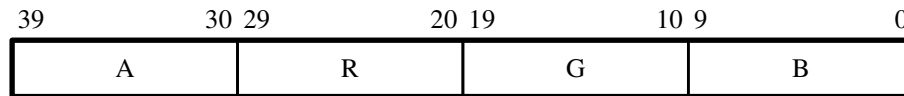

Figure 18. 40-bit RGBA Color Space.
- 40-bit RGBA — This format contains alpha values as well as RGB and uses 10 bits of each color as shown in Figure 18. This mode is defined as 10 bits per color and four color planes.